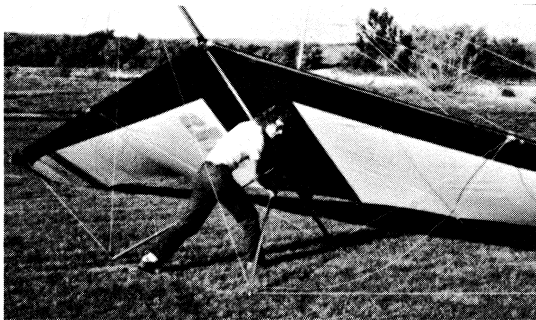

Fig. 12
(11) Attach the forward landing wire from the top of the kingpost to the tang on the bowsprit. *NOTE: This cable also supports the trailing edge bridles. Be sure that the loop on the bridle is over the top of the forward landing wire next to the kingpost head. BE SURE THAT THE BALL LOCKS ON THE QUICK PIN ARE ALL THE WAY THROUGH THE QUICKAM TENSIONING DEVICE and cannot pull back through. Check this by pulling on the quick pin. Leave the quickam untensioned until the control bar is fitted into place.*
(12) Fitting the control bar is the next step. In winds over 15 m.p.h., UP recommends that the glider be left on the ground until ready to fly. This will eliminate any possibility of damage to the glider from blowing over, etc. It only takes a few seconds to lift the Mosquito up and insert the top of the control bar into the mounting box, so leave the glider safely on the ground until you are ready to fly. To fit the bar, lift the glider by the bowsprit and step under it. Pull the control bar forward until the rear flying wire cables are taut from control bar to keel. Then rotate the control bar upward until the pivot box at the top of the control bar mates with the mounting box on the keel. Use one foot on the control bar base and a shoulder on the keel (See Fig. 12). Insert the quick pin, fastening the two assemblies together.
NOTE: The assembly photo sequence nicely illustrates the disassembly. Simply start at Fig. 12 and work in reverse to Fig. 1.